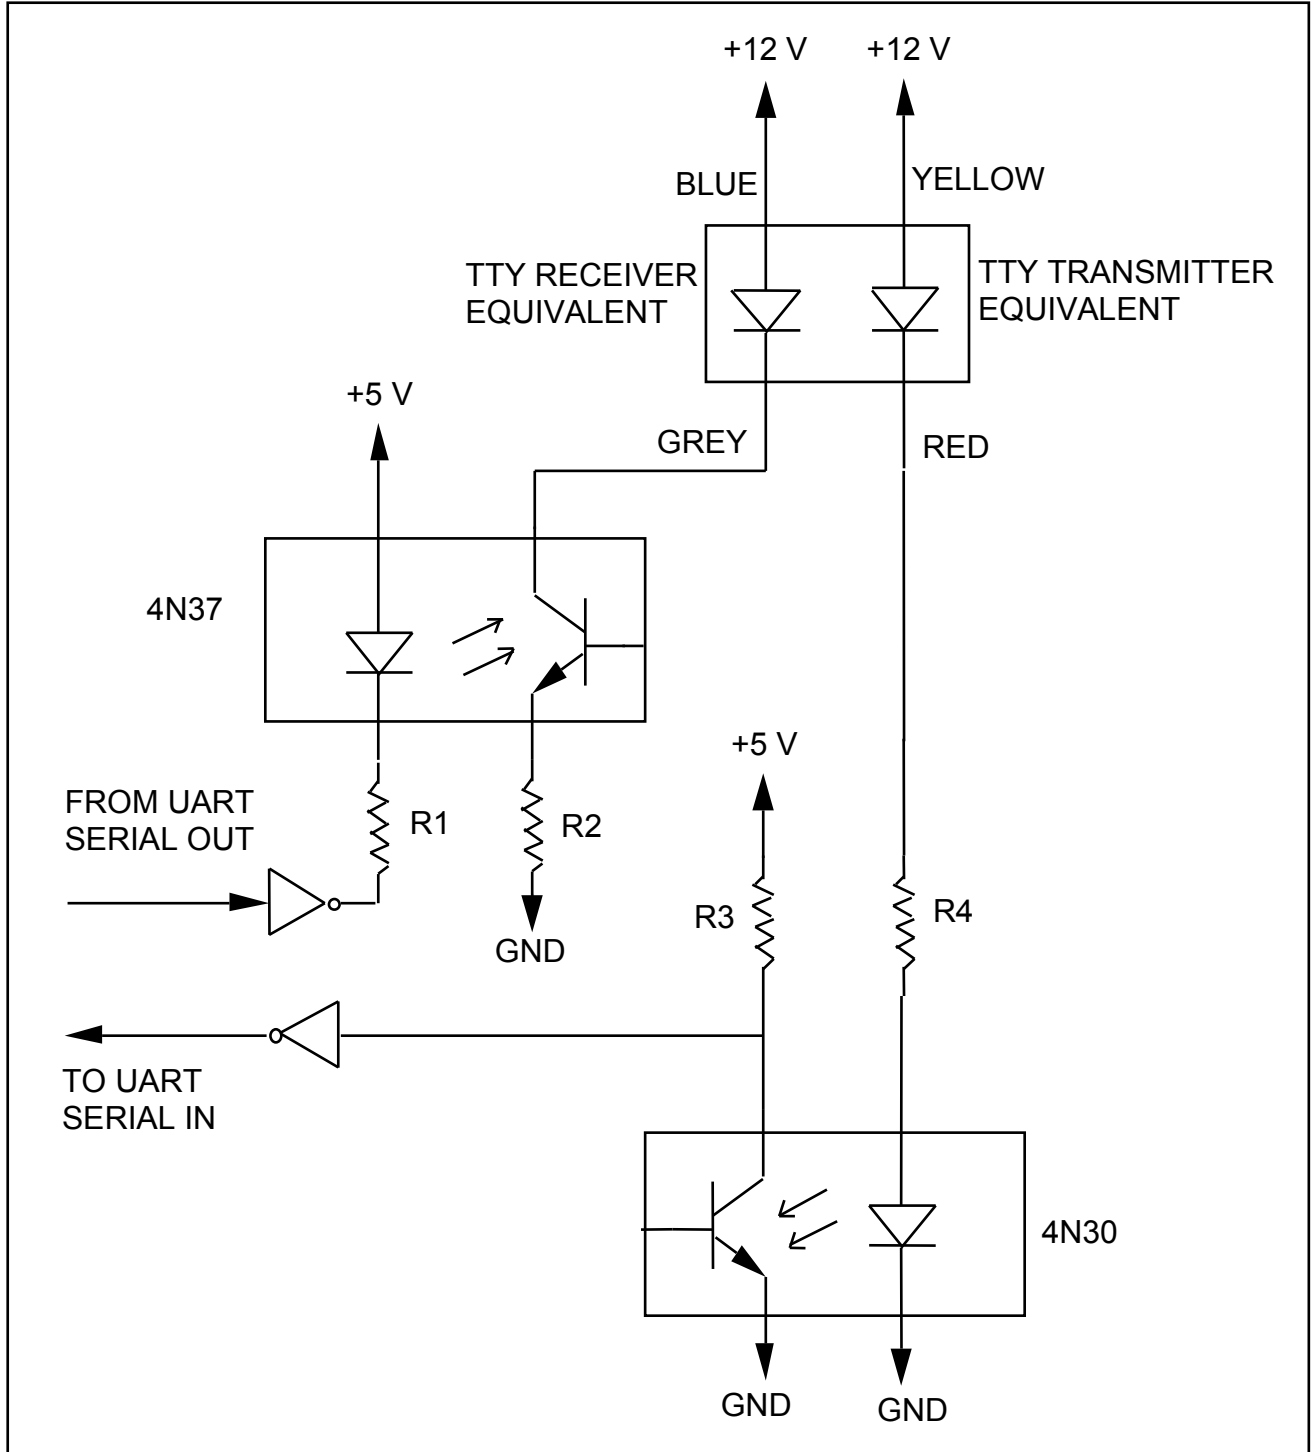

Figure 1: Optoisolator Circuit
A “current loop” employs current-based signaling. A logical “1” or “mark” is represented by 20mA flowing on the serial line; an open circuit with no current represents a logical “0” or “space”. While limited in speed as compared to RS-232, current loop offers better noise immunity and transmission distances in excess of 2000 feet. It is also possible to daisy chain multiple current loop devices as long as only one is active (supplying current to the loop) and the rest passive (switching or interrupting the current on the loop). Since a serial line should idle at a logical “1”, this means that full current should be flowing when no characters are being transmitted. A current loop circuit using optoisolators is shown in Figure 1.
The PC in the lab emulates a terminal by using HyperTerminal, set to use the com1 port (rs232). The RS232 cable has a current loop converter module installed. The module requires current sourcing. The terminal is a passive device in this loop. The external circuit will be the active device and will have to provide the 20 mA on each common line. The +12V sources shown in Figure 1 must be supplied in the lab. All the terminal does is switch the current on and off. The terminal you will use in the lab employs the ASCII code and transmits and receives at 9600 baud.
1. Design the input/output circuitry for a terminal/UART interface as part of a 20 mA current loop. This design requires a suitable interface between the terminal (TTY) and the TTL UART device. When idling, both transmitter and receiver loops should have 20 mA flowing. The 4N37 optoisolator has a current transfer ratio of 100%. Use the optoisolator data at the location given in the reference section to find the input diode forward voltage and output transistor V_{ce} at saturation; assume that the drop across the TTY receiver (or transmitter) equivalent diode is 1.5 V when current is flowing in the loop. Show the calculations for all resistances in Figure 1. Select resistors R2 and R3 so that transistors are in saturation when idling; R1 so that the input current results in an appropriate output current; R4 so that TTL compatible voltage levels are achieved when the current loop is closed or open. Discuss the design technique used for this circuit. The pinout for the current loop cable is shown in Figure 2. NOTE: The terminal is passive in this circuit. Therefore you have to supply the +12V power supply to the receiver and transmitter circuits.
2. Referring to figure 1 and the optoisolator specifications, notice that the base lead of the output transistor is unconnected.